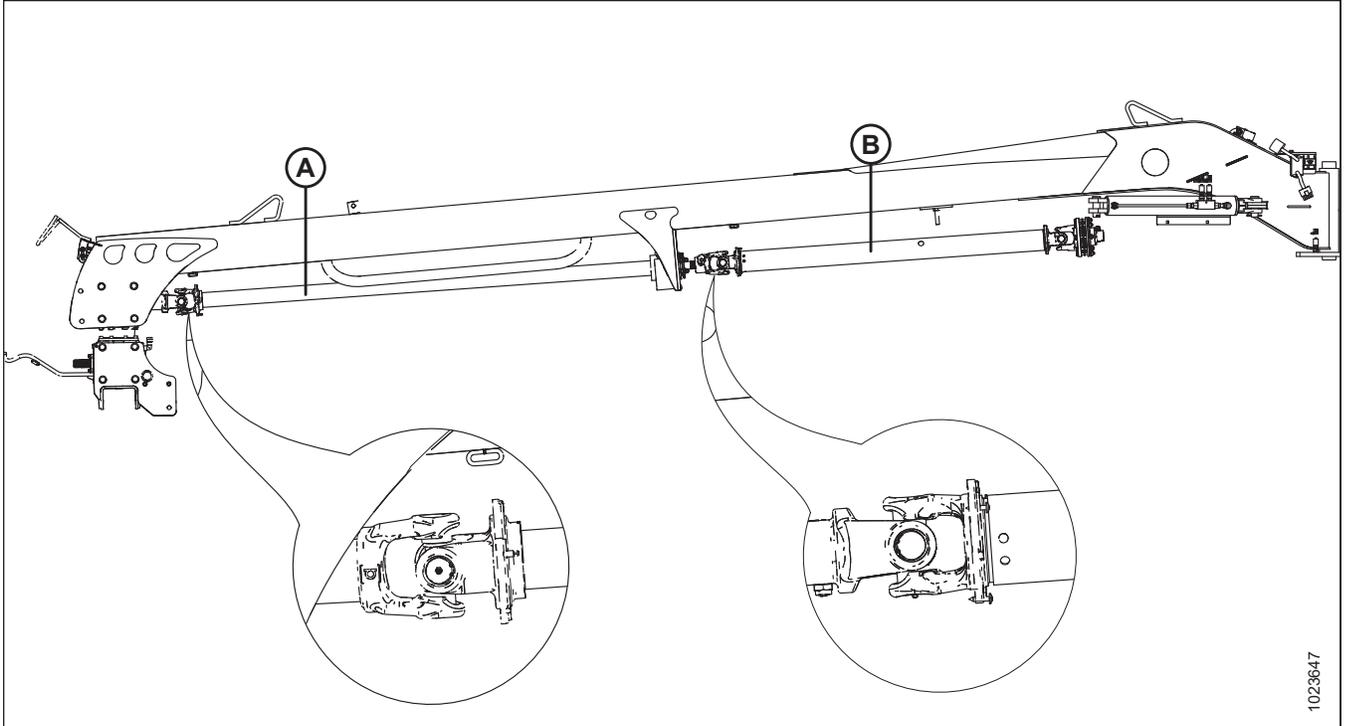

Figure 4.206: R113 Rotary Disc Pull-Type Driveline Phasing
On the R113 rotary disc pull-type (refer to Figure 4.206, page 225), the U-joint on clutch driveline (B) must be aligned 90° to the U-joint on front driveline (A).